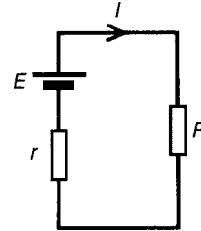

Figure 13.36
- determine the value of the current from the equivalent circuit shown in Fig. 13.36, i.e.